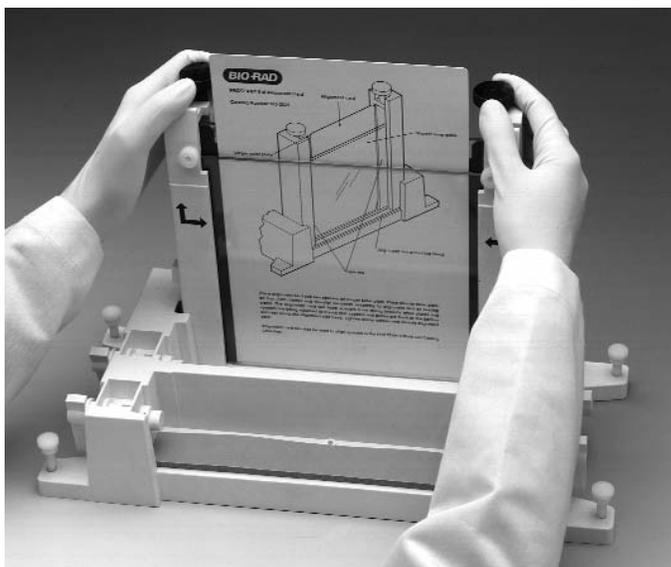

Fig. 6.5. Aligning spacers in the sandwich assembly.
5. Place the sandwich assembly in the alignment slot (the slot without cams) of the casting stand with the short glass plate forward (Figure 6.5). Loosen the sandwich clamps and insert an alignment card to keep the spacers parallel to the clamps.
6. Align the plates and spacers by simultaneously pushing inward on both clamps at the locating arrows while, at the same time, pushing down on the spacers with your thumbs. Tighten both clamps just enough to hold the sandwich in place. Pushing inward on both clamps at the locating arrows will insure that the spacers and glass plates are flush against the sides of the clamps (Figure 6.5).